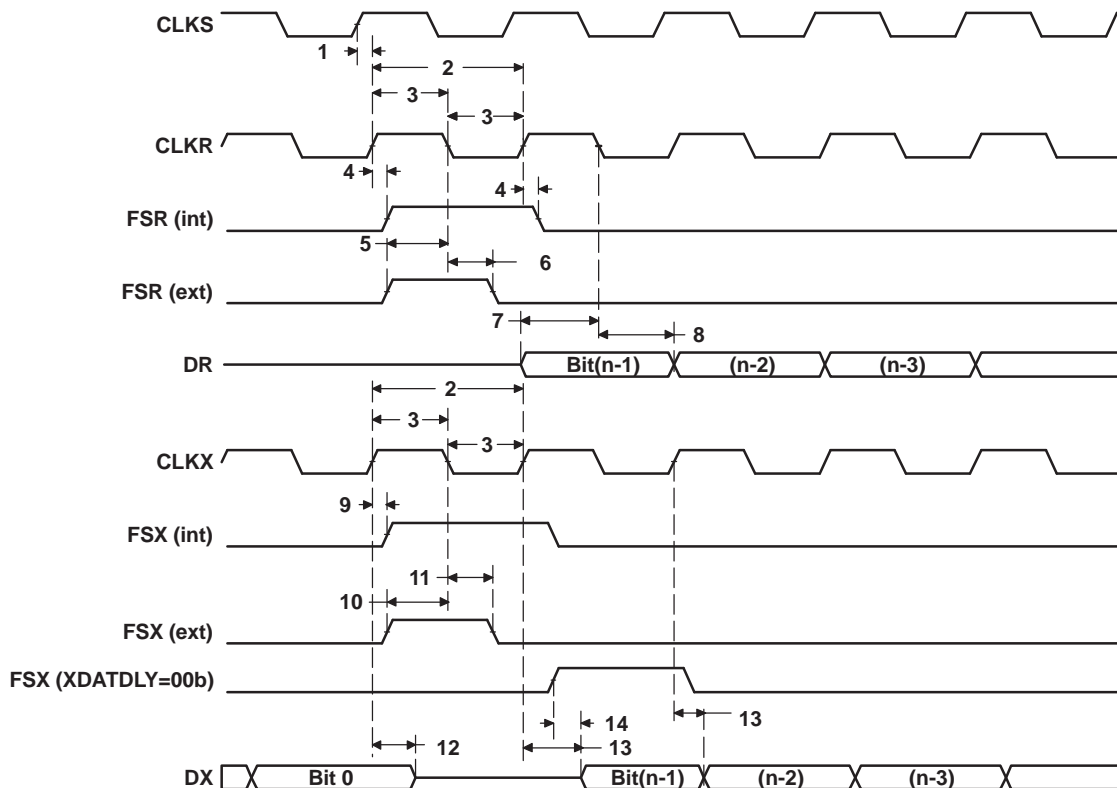

Figure 5-40. McBSP Timing
5.12.1 Timing Requirements for McBSP ⁽¹⁾ ⁽²⁾ (see Figure 5-40)